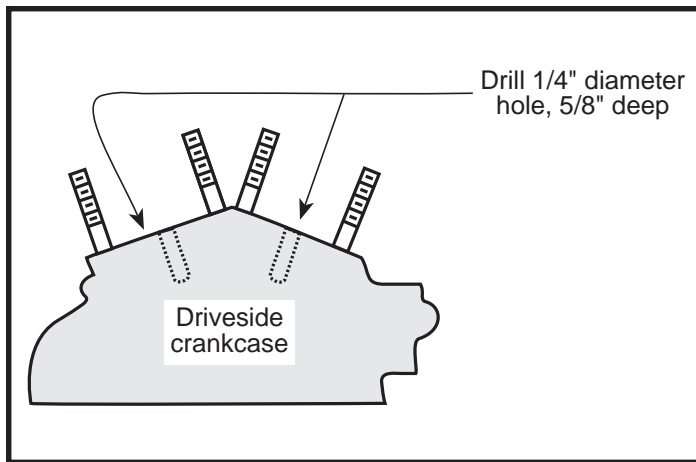

Figure 2
- D. Drill 1/4" diameter hole perpendicular into crankcase gasket surface 5/8" deep. **See Figure 2.**